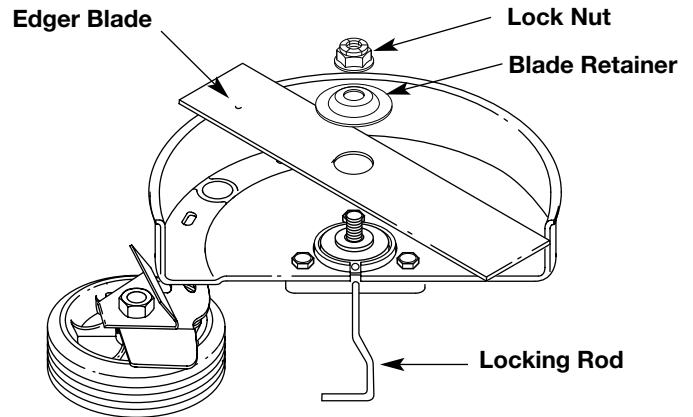

Fig. 9
3. Install the new blade, blade retainer, and nut (Fig. 9). Insert the locking rod through the slot into the output shaft hole. Make sure that the blade stays flat and centered against the output shaft while tightening the lock nut **counterclockwise** (Fig. 10).